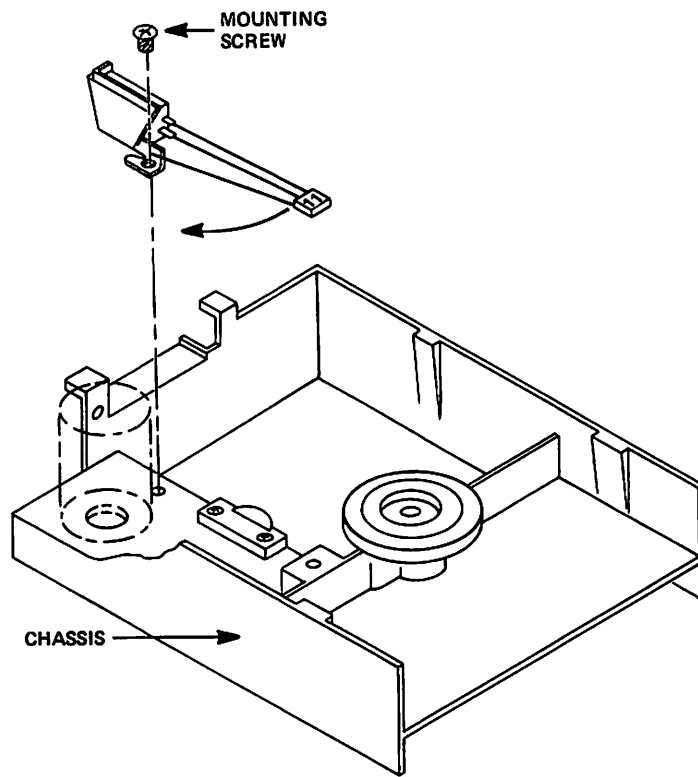

Figure 5-22
5.11.5 With a Phillips screwdriver, remove the mounting screw that attaches the Track 00 Switch Assembly to the chassis (see Figure 5-22).
- 5.11.10 With a Phillips screwdriver, install and tighten the mounting screw that attaches the Track 00 Switch Assembly to the bottom of the chassis (see Figure 5-22).